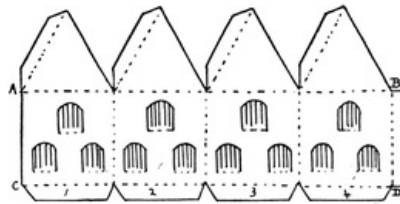
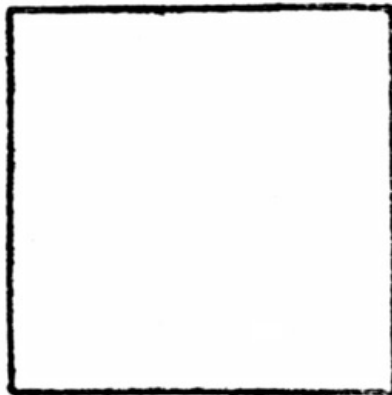
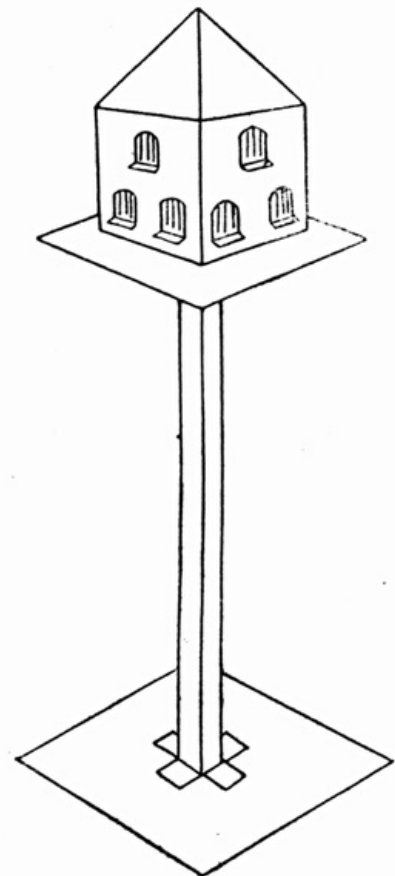

FIG. 174
FIG. 175
FIG. 178
**A Pigeon-house** (Fig. 178). On a piece of cartridge paper draw an oblong 8 inches by 2 inches, and divide it into four squares (Fig. 174). On the top of each construct an equilateral triangle. Make a flange about  $\frac{1}{4}$  inch on the sides of the triangles, as shown in Fig. 174, and on the sides of the squares. Cut and fold back the doorways. Fold and gum together. Flanges 1, 2, 3, 4 should be folded in. Draw and cut out a square, side  $2\frac{1}{2}$  inches (Fig. 175); gum the house on to this.